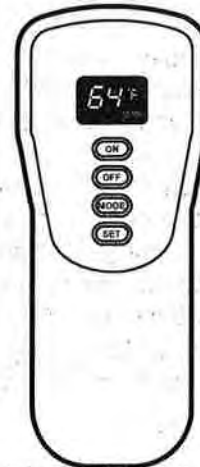

Figure 21 - Remote Control
1. Place the slide switch on the receiver in the remote position (see Figure 21).
4. Press the ON button on the remote control to light the burner (see Figure 21). You will hear a series of beeps. This will also "learn", or program, the remote and the receiver.
The factory setting for temperature is °F. To change this setting to °C, press the ON key and the OFF key on the remote control at the same time (see Figure 21, page 19). This will change from °F to °C. Follow this same procedure to change from °C back to °F.